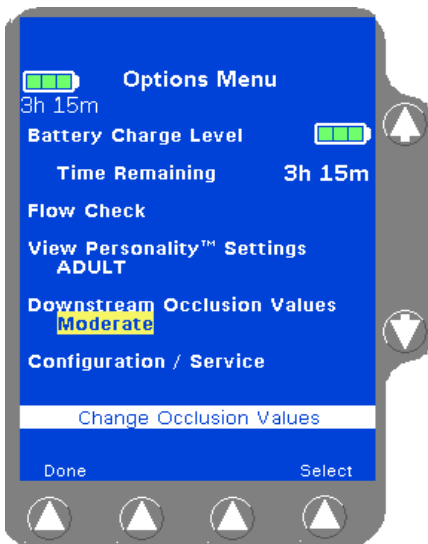

Figure 4-105 Downstream Occlusion Values Setting
2. Use the $\uparrow\downarrow$ keys to highlight the **Downstream Occlusion Values** setting and then press the **Select** soft key (Figure 4-105).